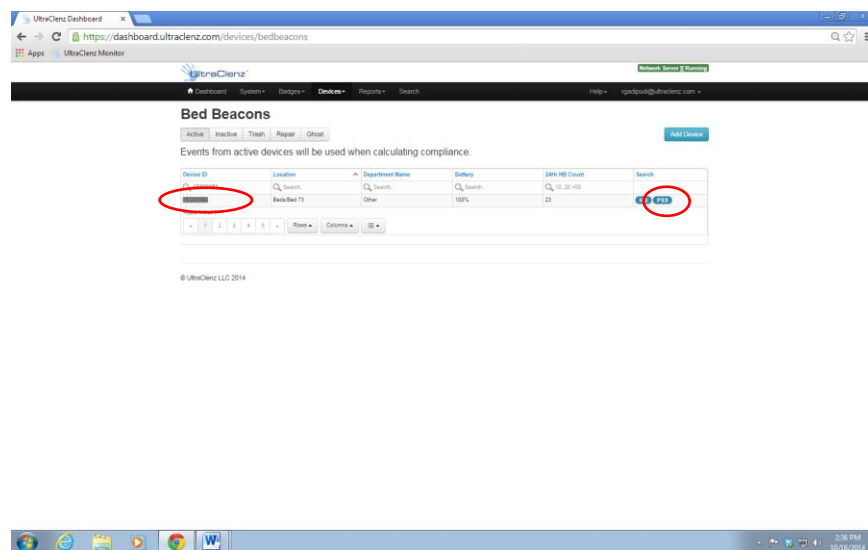

Figure 16. Search for and See Device Screen
8. Enter the Bed Beacon's device address number as shown in *Figure 16* and the device should be found as shown. Click on the **PSS** button shown.